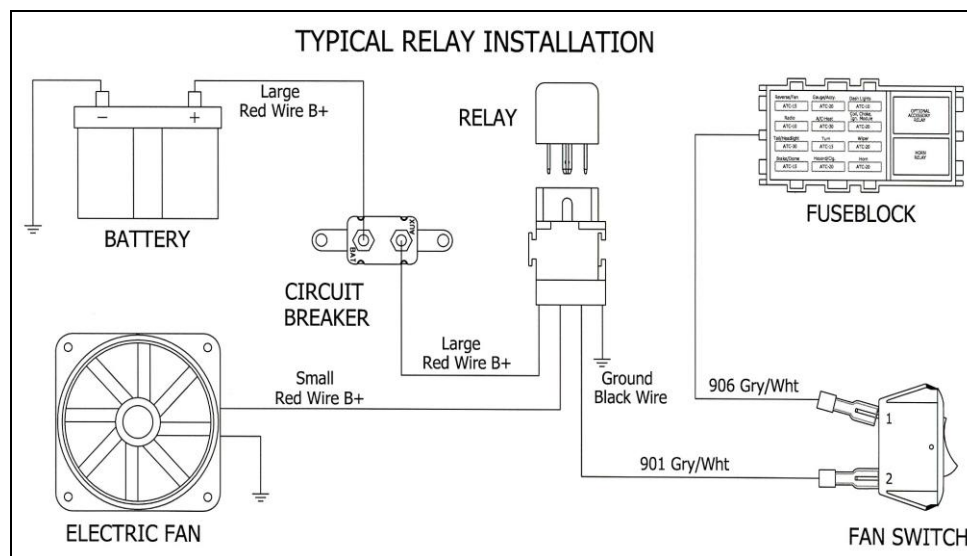

Figure 8-3C Typical fan relay installation
8.3.4 Connect HEADLIGHT SECTION A wire #901 (GRY/WHT) to the Electric Fan Relay. This wire is an activation wire for the relay, **NOT A POWER FEED**. The other end of wire #901 is in the ACCESSORY SECTION SWITCHES and should be connected to a electric fan switch in the dash. Connect 906 (GRY/WHT) from ACCESSORY SECTION B+ to the other side of the fan switch. **Figure 8-3C** shows a typical fan relay installation.